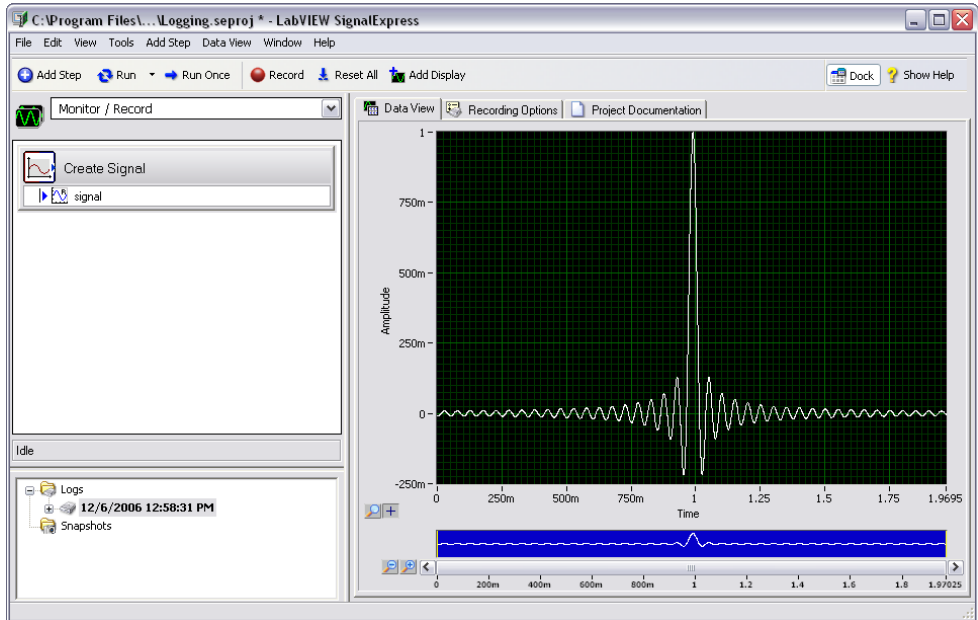

Figure 5-2. Logging.seproj
2. The **Logged Data** window displays a list of all logged data in the current project. Select the data you just recorded from the **Logged Data** window and drag it into the Data View. The Data View displays the logged data and a preview graph, as shown in Figure 5-2. The signal displayed in the Data View may differ from the signal displayed in Figure 5-2, depending on how long you record the signal.